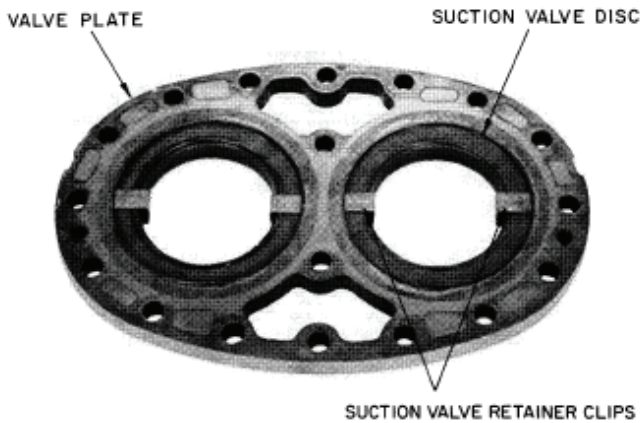

Fig. 15 — Valve Clips in Place Cylinder and Unloader Sleeves
2. Place suction valve disc on valve springs; press disc into valve plate recess. Slide valve retainer clips into place (see Fig. 15). Clips must not cover valve lifter springs or pins. Valve retainer clips 5F20-2061 (5F compressors) and 5H40-2061 (5H compressors) are field supplied.